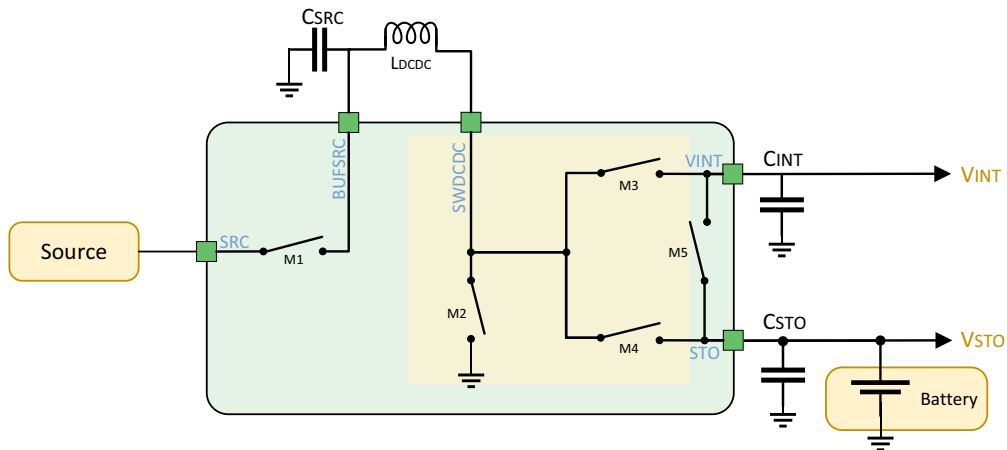

Figure 8: Simplified schematic view of the AEM1090x
- If keep-alive is enabled, **V_{INT}** is supplied by the battery through M5 (Figure 8), so the AEM1090x stays in **SUPPLY STATE** while energy is available on the battery;